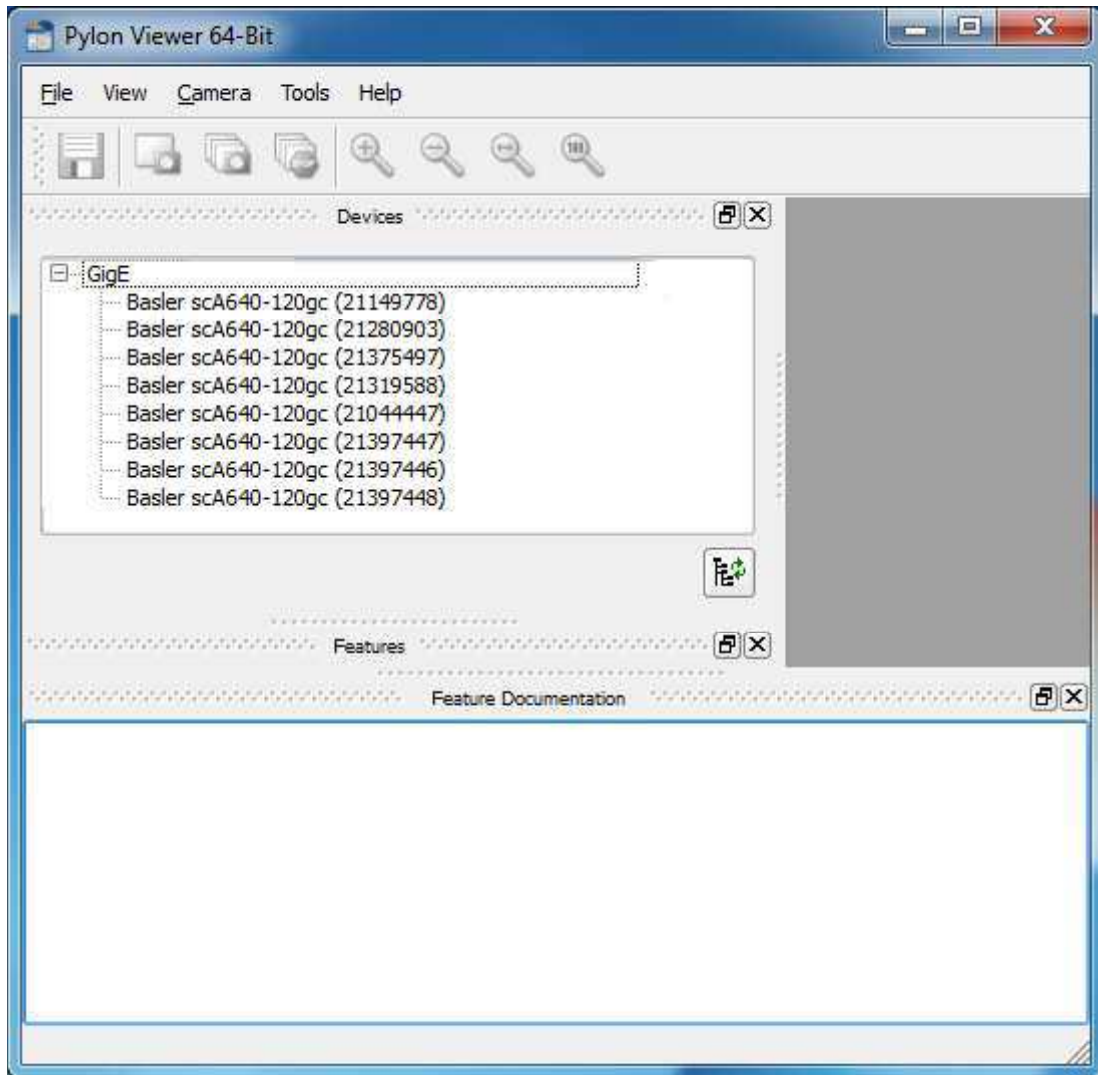

Figure 17.5: Recognition of 8 Cameras in Pylon Viewer
2. Open the Basler Pylon Viewer and check if the cameras are being recognized. (cf. fig. 17.5)